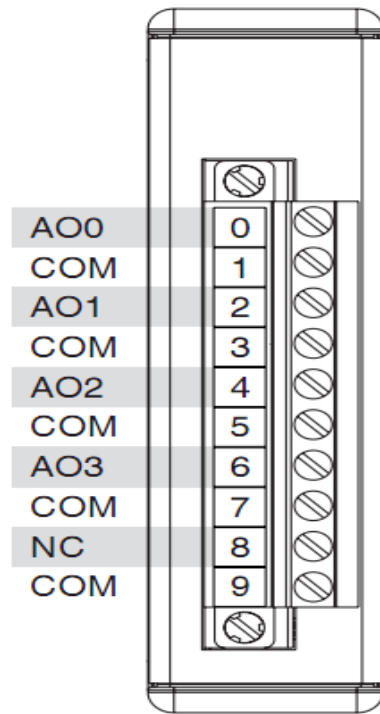

Figure 11 – NI 9263 terminal assignments
4. Connect external wires to pins 0 and 1 of the D-subconnector (Figure 11).